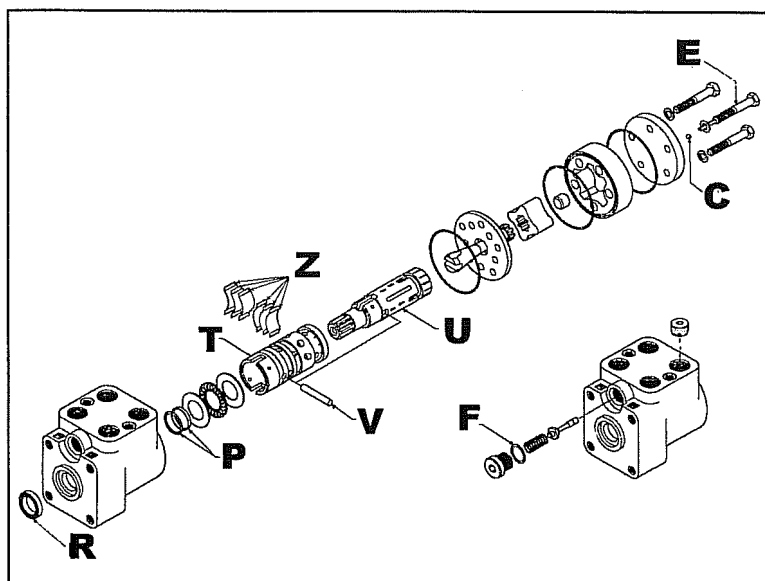
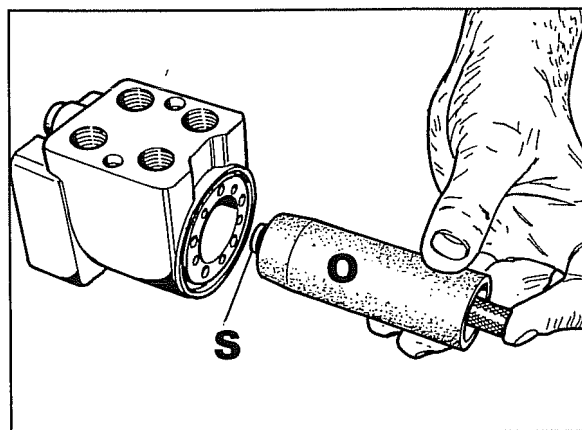
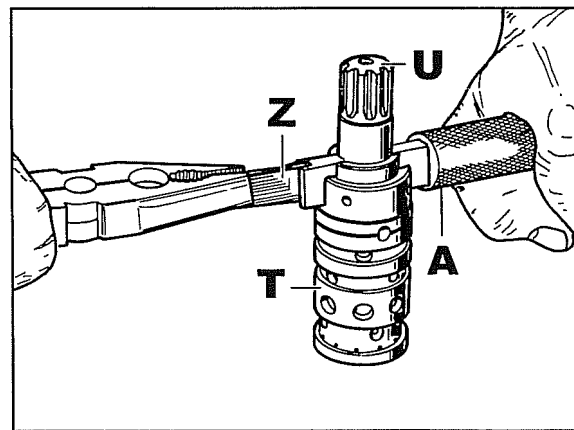

Fig. 61
Fig. 64
Fig. 65
4. Fig. 61 shows an exploded view of the power steering ass'y.
- Use the special tool **O** Fig. 64 to fit the Combi **P** ring and the dust seal ring **R** Fig. 61 and 63.
- a. Place the ring on the inside pin **S** Fig. 64 of the tool.
- b. Hold the inside pin pressed down as shown in Fig. 64, insert the ring in its seating.
- Pre-install the centre distributor cylinder (**T-U** Fig. 61 and 65) inserting pin **V**. Next insert the springs **Z** (Fig. 61 and 65) as shown in Fig. 65.
Pin **V** Fig. 61 and 67, must be perpendicular to this hose coupling as shown in Fig. 67_1.
- Screw **E** and its ball **C** Fig. 61 are positioned in hole **D** Fig. 67.
- Seal ring **F** Fig. 61 and 63, one of the set of seal rings, is used to replace the seal ring in the pressure relief valve plug.